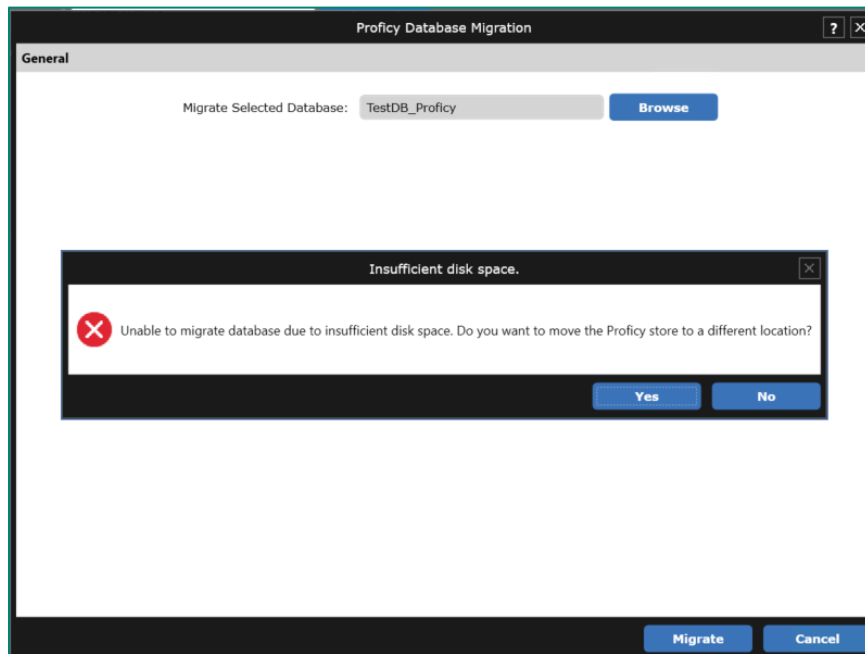

Figure 10: Move Data message when Insufficient Disk Space for Migration
- In the case of low disk space, an Insufficient Disk Space message will be shown (Figure 10)